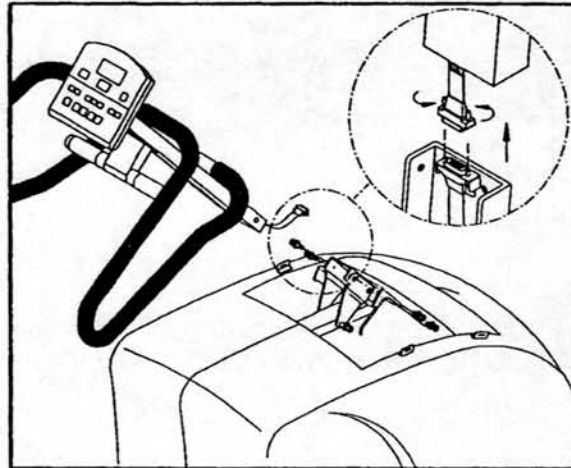

Fig.10-1
2. Unscrew the screws and take apart the connector of the ELECTRONIC PACKAGE (see fig.10-1).